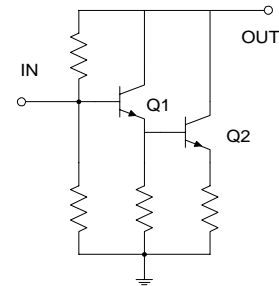

Figure 1. AG Series Schematic Diagram
WJ Communications (WJ) has recently released a family consisting of 22 models of basic amplifier gain blocks – the AG Series products. The AG Series family is built upon indium gallium phosphide heterostructure bipolar transistors (InGaP HBTs) in a Darlington Pair configuration (Figure 1). The AG Series offers RF designers a broadband gain block function in various industry-standard surface mount packages: SOT-363, SOT-86, and SOT-89. The wide bandwidth and various gain / OIP3 / P1dB levels the AG Series models offer an array of choices to RF designers. The devices' 50 Ω input and output impedances ensure that no matching networks are needed. For proper operation the devices only require an input and output blocking capacitor, an RF choke (inductor), a bypass capacitor, and a dropping resistor. The proper dropping resistance values required for normal operation are discussed in detail herein.
As shown in Figure 1, the internal circuit configuration for the gain blocks is a Darlington Pair embedded in a resistive network. Each MMIC's internal resistor values determines the gain level, and each MMIC's individual transistor sizing determines the linearity and compression point performance. In contrast to WJ's well known voltage-controlled GaAs MESFET devices, the HBT's discussed herein are current-controlled. Therefore, for optimal operation with a stable operating point it is recommended that the devices be operated with a constant-current, DC source. If HBT devices are connected directly to a constant-voltage DC source, the current will vary widely with small changes in supply voltage, temperature, and device-to-device variation. This configuration is not recommended as variations in current from the optimal operating current can degrade OIP3 and P1dB performance. Operating the device with less current than recommended will also degrade the OIP3 and P1dB performance. Furthermore, operating the device with more current than recommended may heat up the junction temperature past the recommended value and prematurely reduce the otherwise long MTTF of the device.